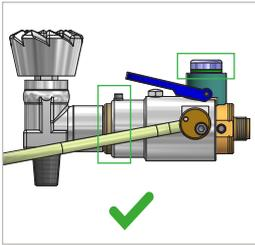
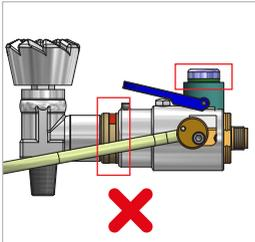

Figure 7
Figure 8
- The WEH® Connector is **only** connected correctly if the green ring is extended completely from the housing and visible. The red marking on the front part must **not** be visible (Figure 7 and Figure 8).